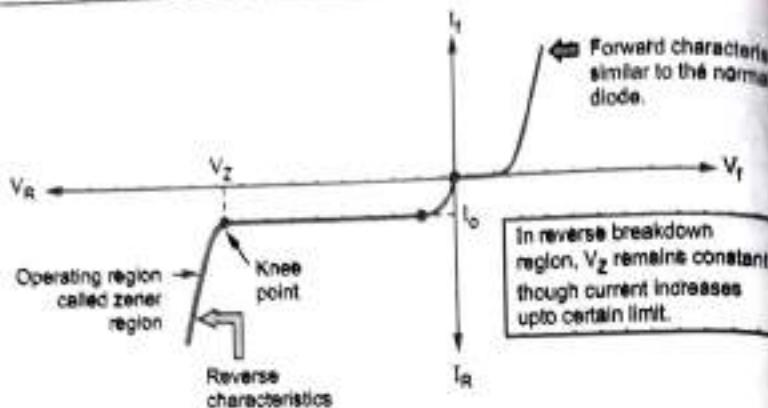

Fig. Q.37.1 V-I characteristics of zener diode
- The V-I characteristics of zener diode is shown in the Fig. Q.37.1.